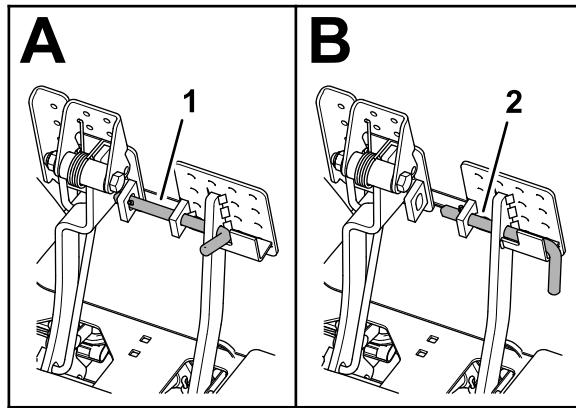

Figure 148
2. Disengage the pedal-locking latch between the brake pedals (Figure 148) so that both pedals work independently of each other.